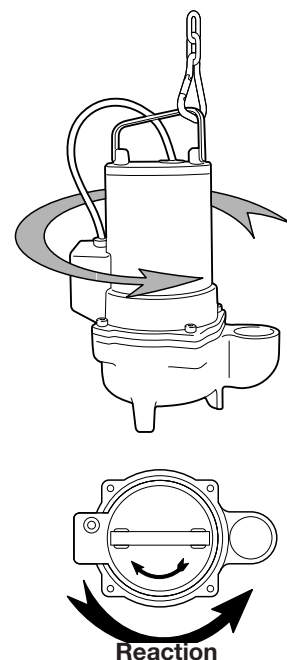

Fig. 12
- The correct direction is indicated by harrows on the electric pump cover and pump body. If the kick-back has been anticlockwise viewing the electric pump from above, then the rotation direction is correct (fig.12)